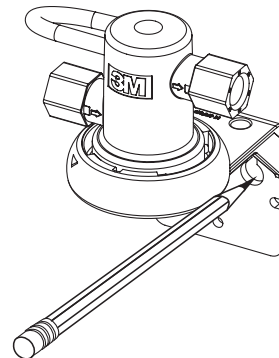

Figure 2
4. Using filter head assembly as a guide, mark hole locations so that there is 1 1/2" between the screws (see Figure 2), from center of each screw.